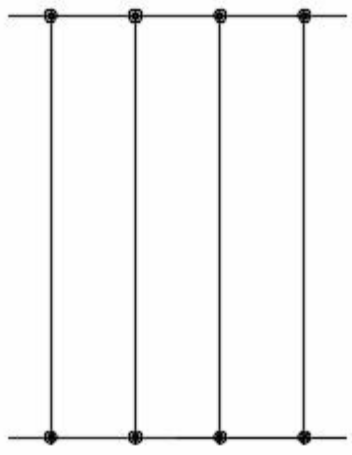

Figure-28. Ladder placed horizontally oriented
- Click in the drawing area to place the ladder at the desired position. If your ladder is placed with horizontal orientation as shown in Figure-28, then rotate the complete ladder by 90 degree using the **Rotate** tool from the **Modify** panel in the **Home** tab of the **Ribbon**.